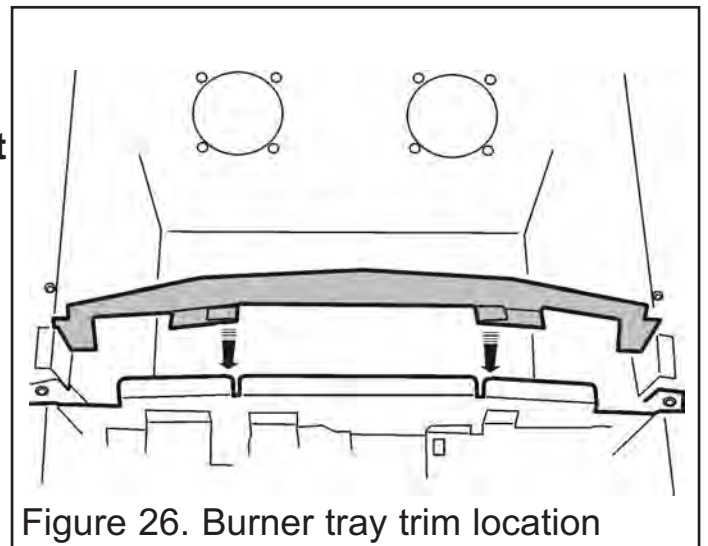

Figure 26. Burner tray trim location
5. Fit the burner tray trim to the front flanges of the burner. To do this, locate the tags on the baffle over the front flanges of the burner and lower into position **ensuring that it is pushed firmly down.** (See figure 26).